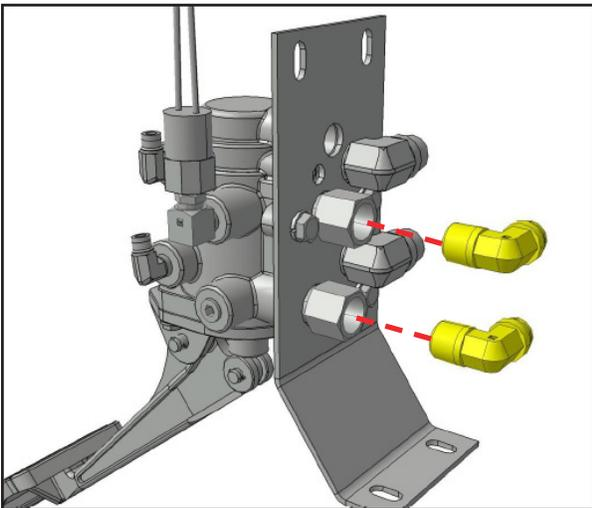

Figure 15: Reinstall the two 90° push-to-connect fittings.
19. Place a small amount of Loctite 567 on the threads of the fittings and reinstall the two (2) 90° push-to-connect fittings as shown in Figure 15.
20. Torque 2-3 turns past hand tight, and orientate as shown in Figure 15.